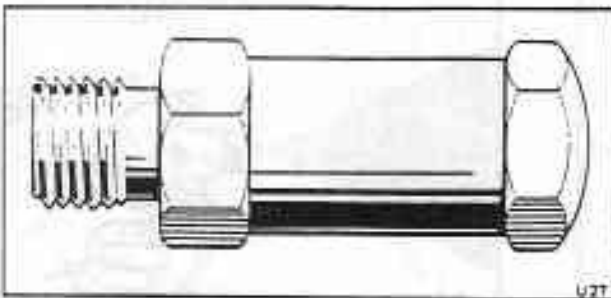

Fig. S17-32 Quick spray pattern changer
7. Quick pattern changer (see fig. S17-32). This fits on the spray gun in place of the fluid needle adjusting screw. It enables the operator to produce two fan pattern sizes whenever they are required. When fitted, a light pull on the spray gun trigger gives a narrow pattern for spraying edges and other small areas. Full movement of the trigger produces the conventional pattern for spraying larger surfaces.